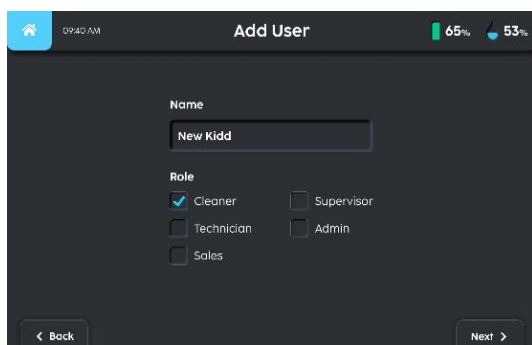

FIGURE 3-24
3. Enter the user's name and role (Fig. 3-24).